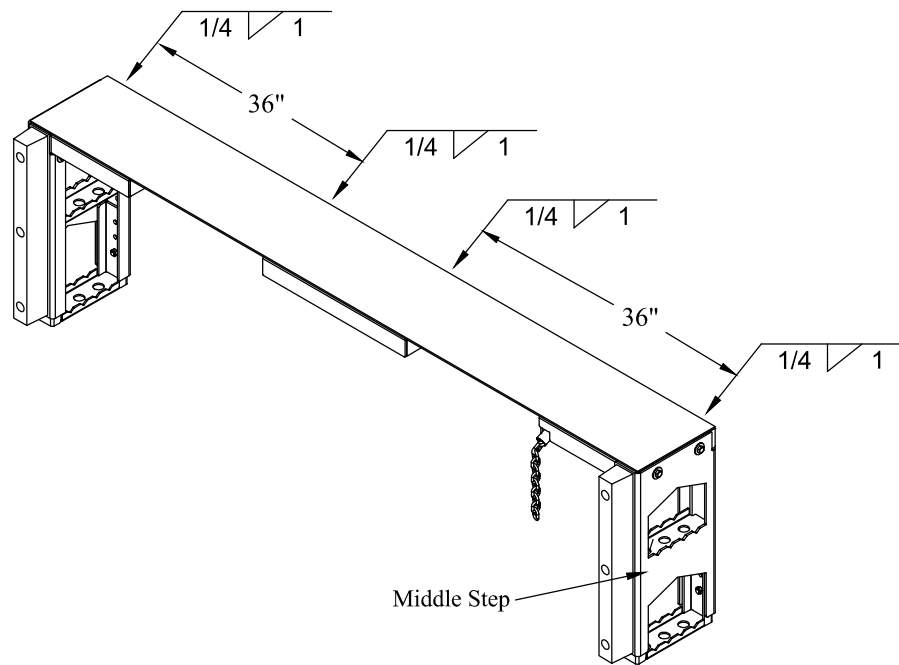
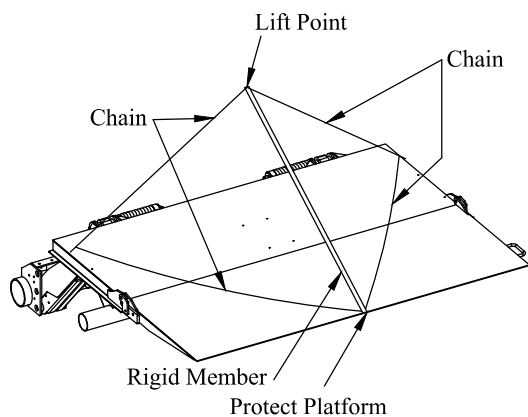

Figure 6: Bed Extension - Tacking Locations
Figure 8: Liftgate positioning with overhead lift.
3. **Tack Weld** bed extension into position with four one inch welds (Figure 6).
4. **Raise** the liftgate using toggle switch to make sure liftgate is completely raised into the tagged cylinder stops (Figure 8).
9. **Lift** the liftgate with a forklift or overhead lift (Figure 6 or Figure 8).